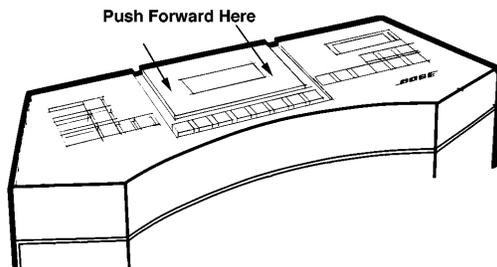

Figure 1. Cassette Door
1.1 With the cassette door closed, grasp the cassette door with both hands at the rear of the door. Apply forward pressure parallel to the top cover. This will release the cassette door from the tabs on the cassette holder. See figure 1 below.